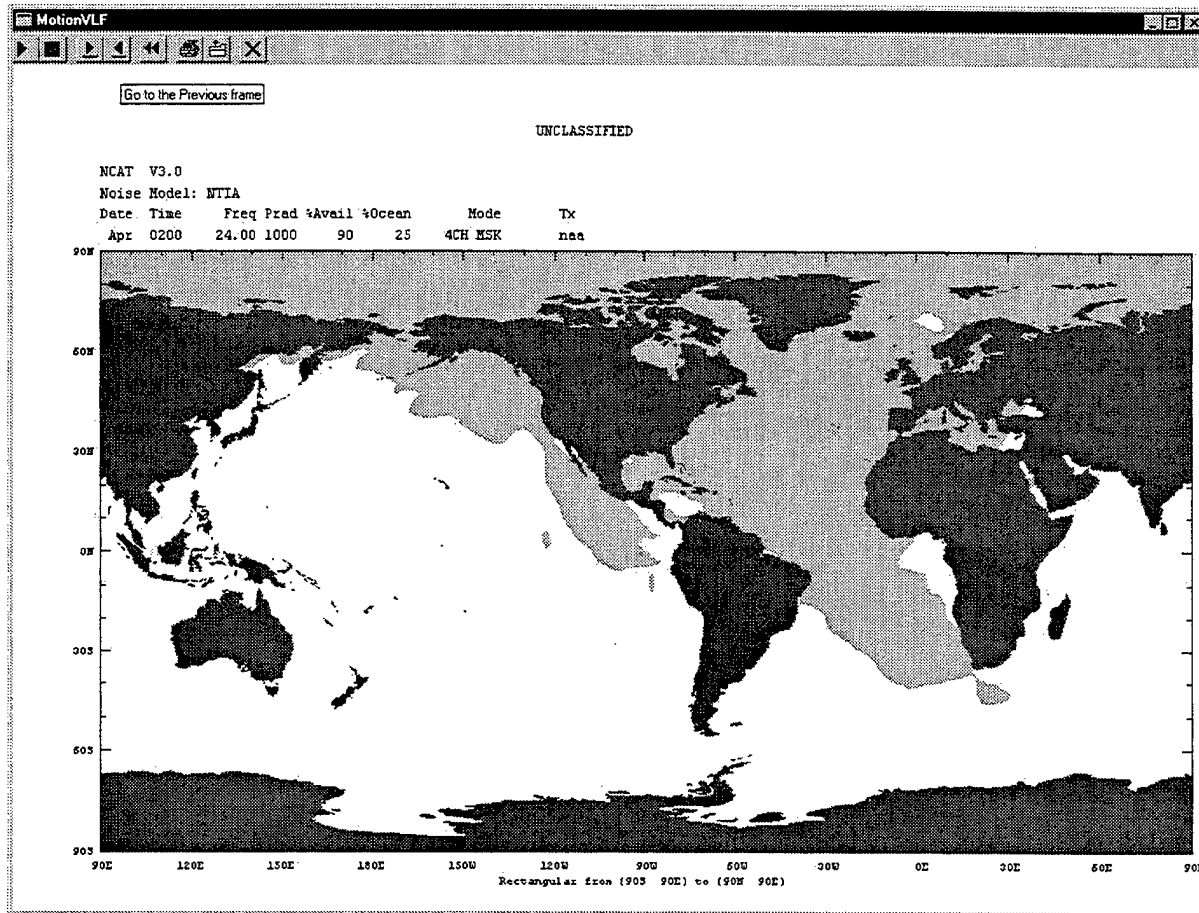

Figure 24. Example of coverage chart.
- A series of coverage charts for a selected transmitter (using the last map area selected). The user may select various options (described in section 4.4). To view the selected series of coverage charts, select Run Scenario -> Show Single Coverage... or Run Scenario -> Show Joint Coverage.... Section 8.6 describes controls for viewing the coverage charts. Figure 24 shows an example of the resulting hard copy.